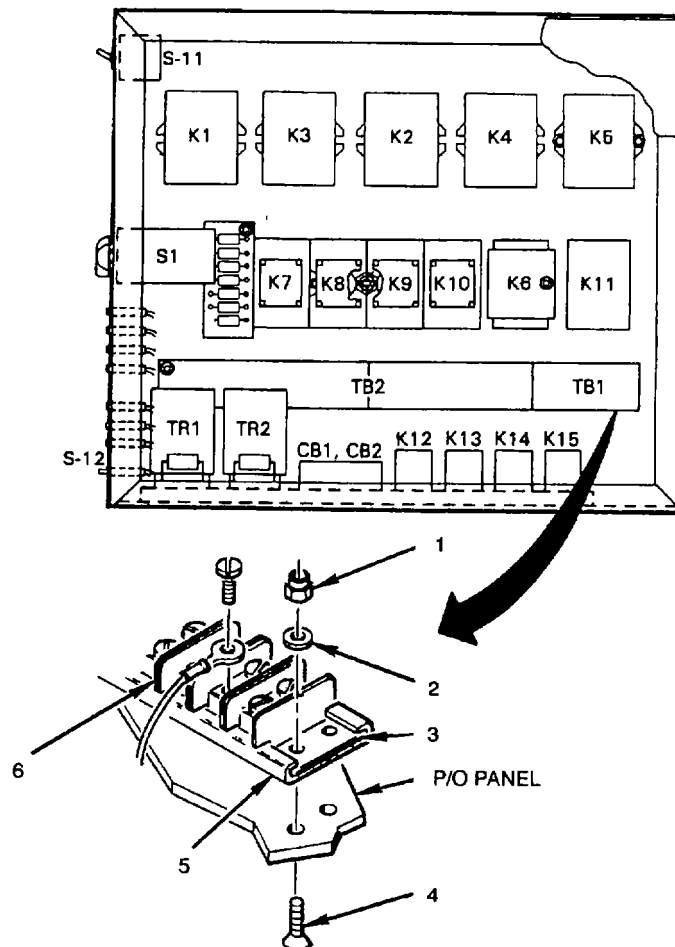

Figure 4-34. Terminal Boards (TB1 and TB2)
- (1) Disconnect air conditioner input power at source; and
- (2) Remove control box assembly (paragraph 4 27).
- a. Check terminal boards for loose or corroded terminals, cracks and obvious damage. Replace terminal board if cracked or broken (see fig. 4-34)